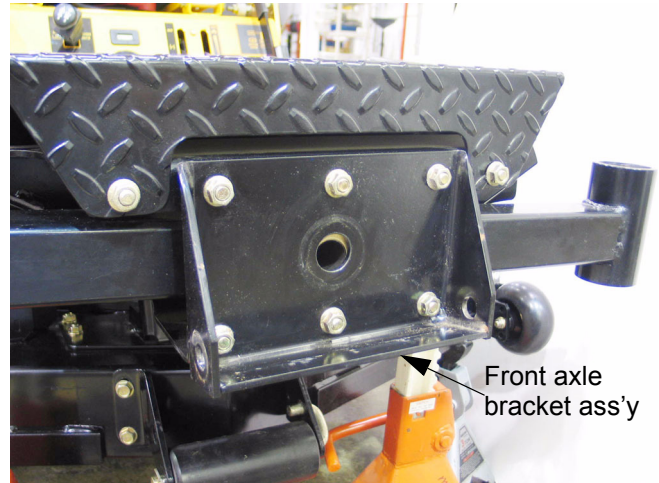

Figure 27.34
27.34. Once the pivot bolt is removed, the front axle bracket assembly may be taken-off using a 9/16" wrench. See Figure 27.34.